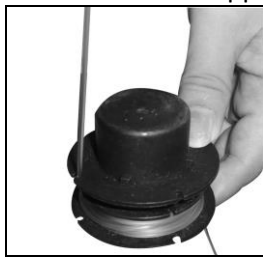

Fig 4E
5. Lock each end of line into opposite holding slot. (Fig 4E)